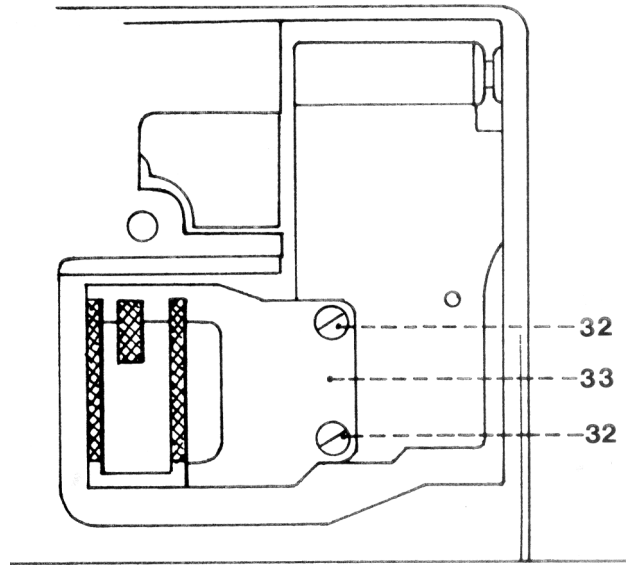

Fig. 10a
- Loosen screws 32 only a little (fig. 10a).